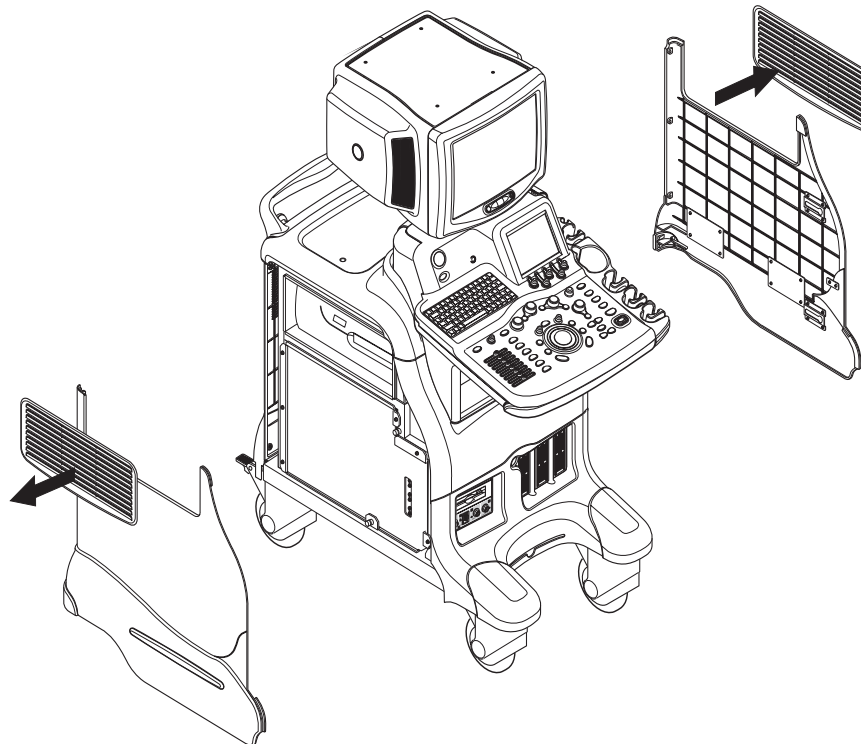

Figure 8-68 Removing Side Caps
- 4.) Pull the Side Cap upward from the Right Cover. Refer to Figure 8-68.